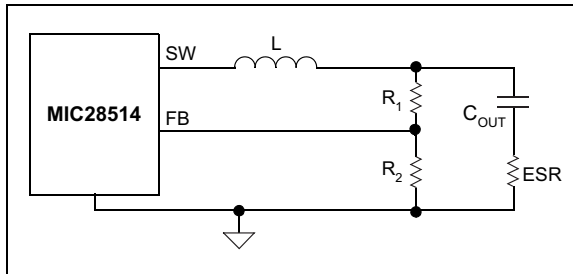

FIGURE 5-2: Enough Ripple at FB.
1. Enough ripple at the feedback voltage due to the large ESR of the output capacitors (Figure 5-2). The converter is stable without any ripple injection.